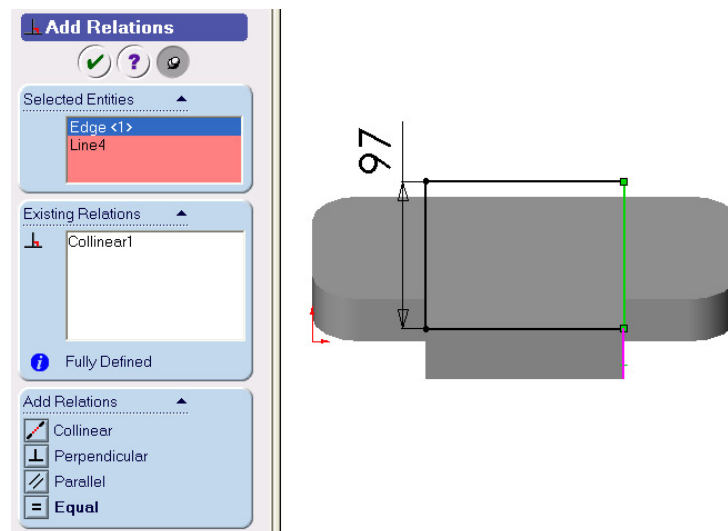

Figure 9 Slot body sketch
10. Select **Dimension**  on the Sketch Relation toolbar. Dimension the rectangle as shown in Figure 9. If the sketch is not fully constrained, apply collinear constraint to the vertical lines and edges.